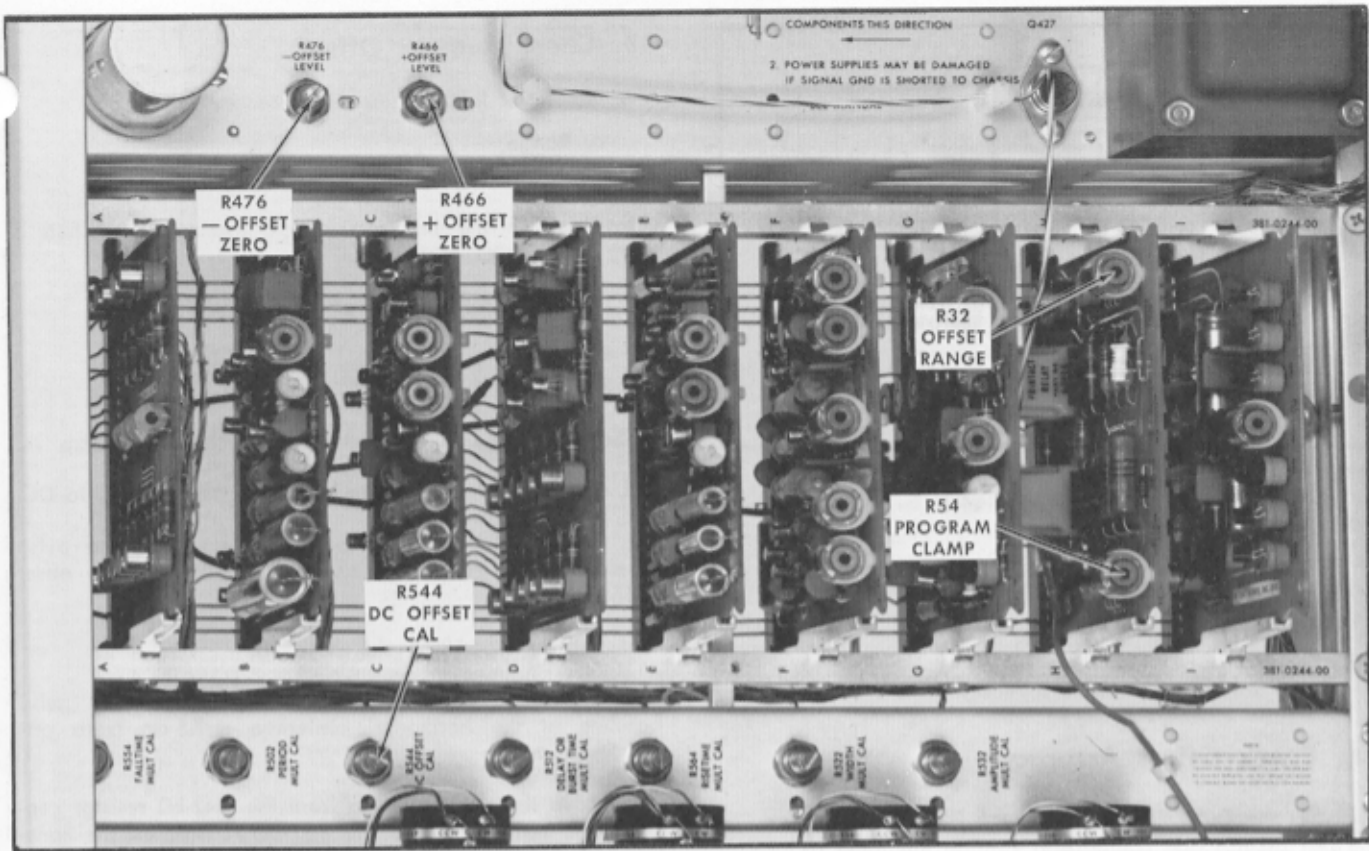

Fig. 7-18. Location of offset current adjustments on the Attenuator (Series H) card and on the Type R116 chassis.
h. Adjust—R32 (OFFSET RANGE) on the attenuator circuit card (Series H) if the offset range is not correct. See Fig. 7-18 for the location of R32.
i. Adjust—R544 (DC OFFSET CAL) on the Type R116 chassis (see Fig. 7-18) if the baseline level is not correct.
e. Adjust—R466 (+OFFSET ZERO) on the Type R116 chassis (see Fig. 7-18) if the offset zero level is not correct.
- h. Adjust—R476 (—OFFSET ZERO) on the Type R116 chassis (see Fig. 7-18) if the offset zero level is not correct.